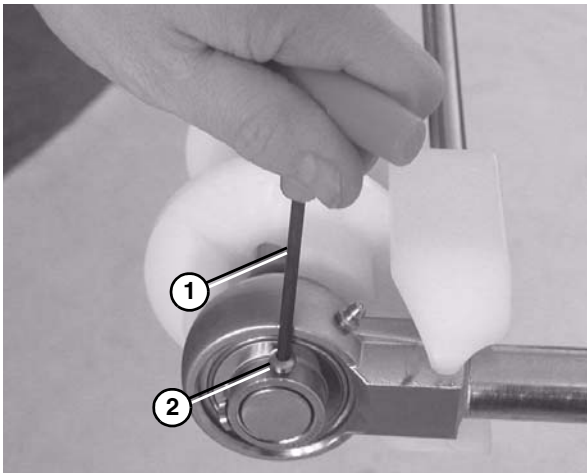

Figure 79
5. Use a hex wrench (Figure 79, item 1) to tighten the bearing shaft fasteners (Figure 79, item 2) to 54 in•lbs (6 N•m). Check after 24 hours of conveyor use.